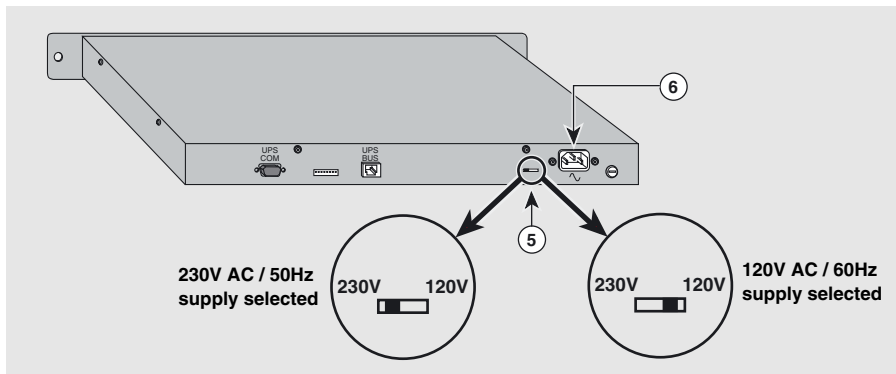

Fig. 3
Set the appropriate voltage (230V or 120V) using the selector ⑤ (see figure 3).
- ▶ check the position of the input voltage selector (see figure 3),